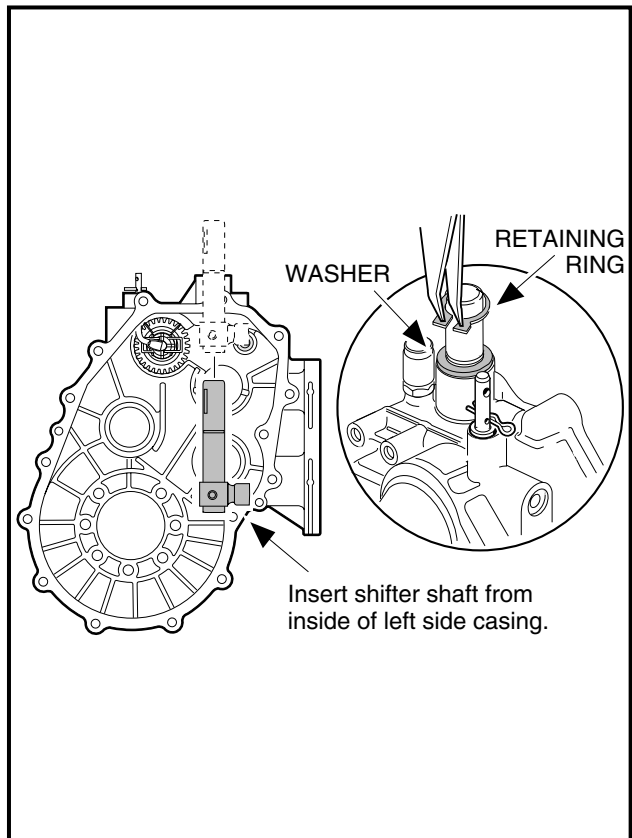

Figure 7-48 Insert Shifter Shaft
6. Install the shifter shaft into the left (driver side) case (**Figure 7-48, Page 7-25**). Install the washer and use external snap ring pliers (0.070 tip) to install retaining ring on the shifter shaft outside of the case. Make sure the retaining ring is in the groove of the shaft.